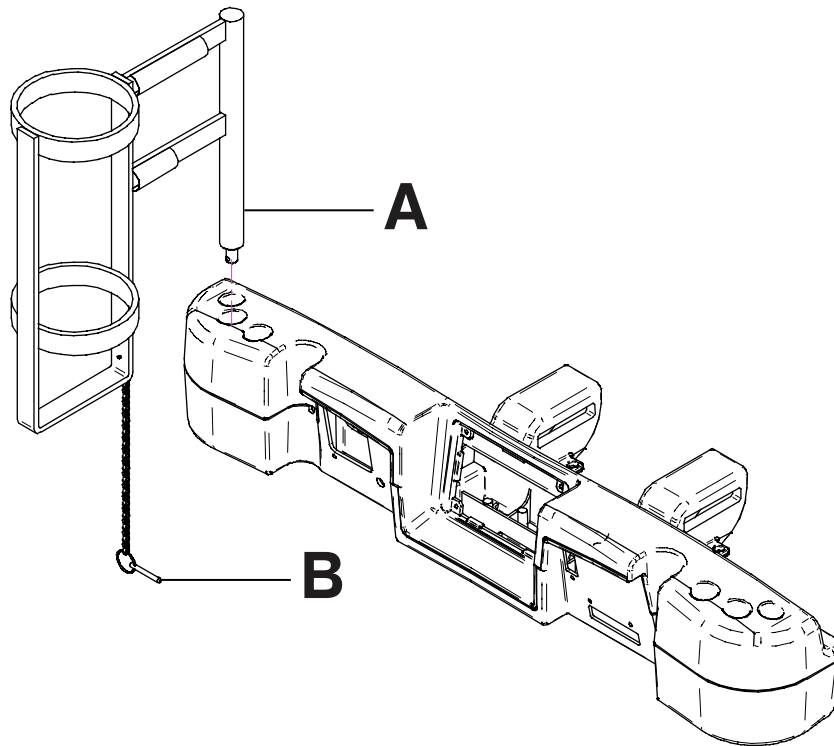

Figure 132: Upright oxygen bottle holder
1. Insert the support bar into the socket at the head end or foot end of the product on either side (A) (Figure 132 on page 111).
2. Insert the security chain pin (B) through the support bar hole (Figure 132 on page 111) to secure the bottle holder to the product.